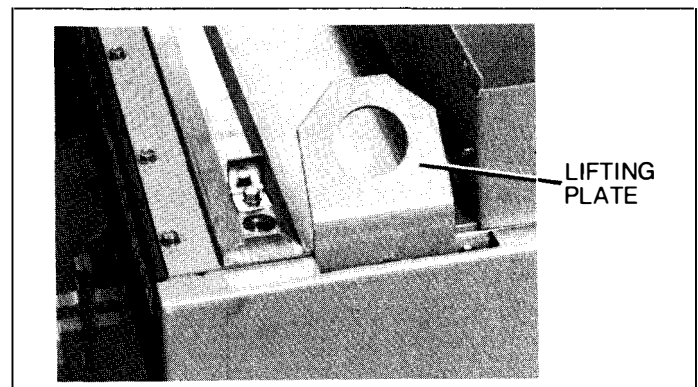
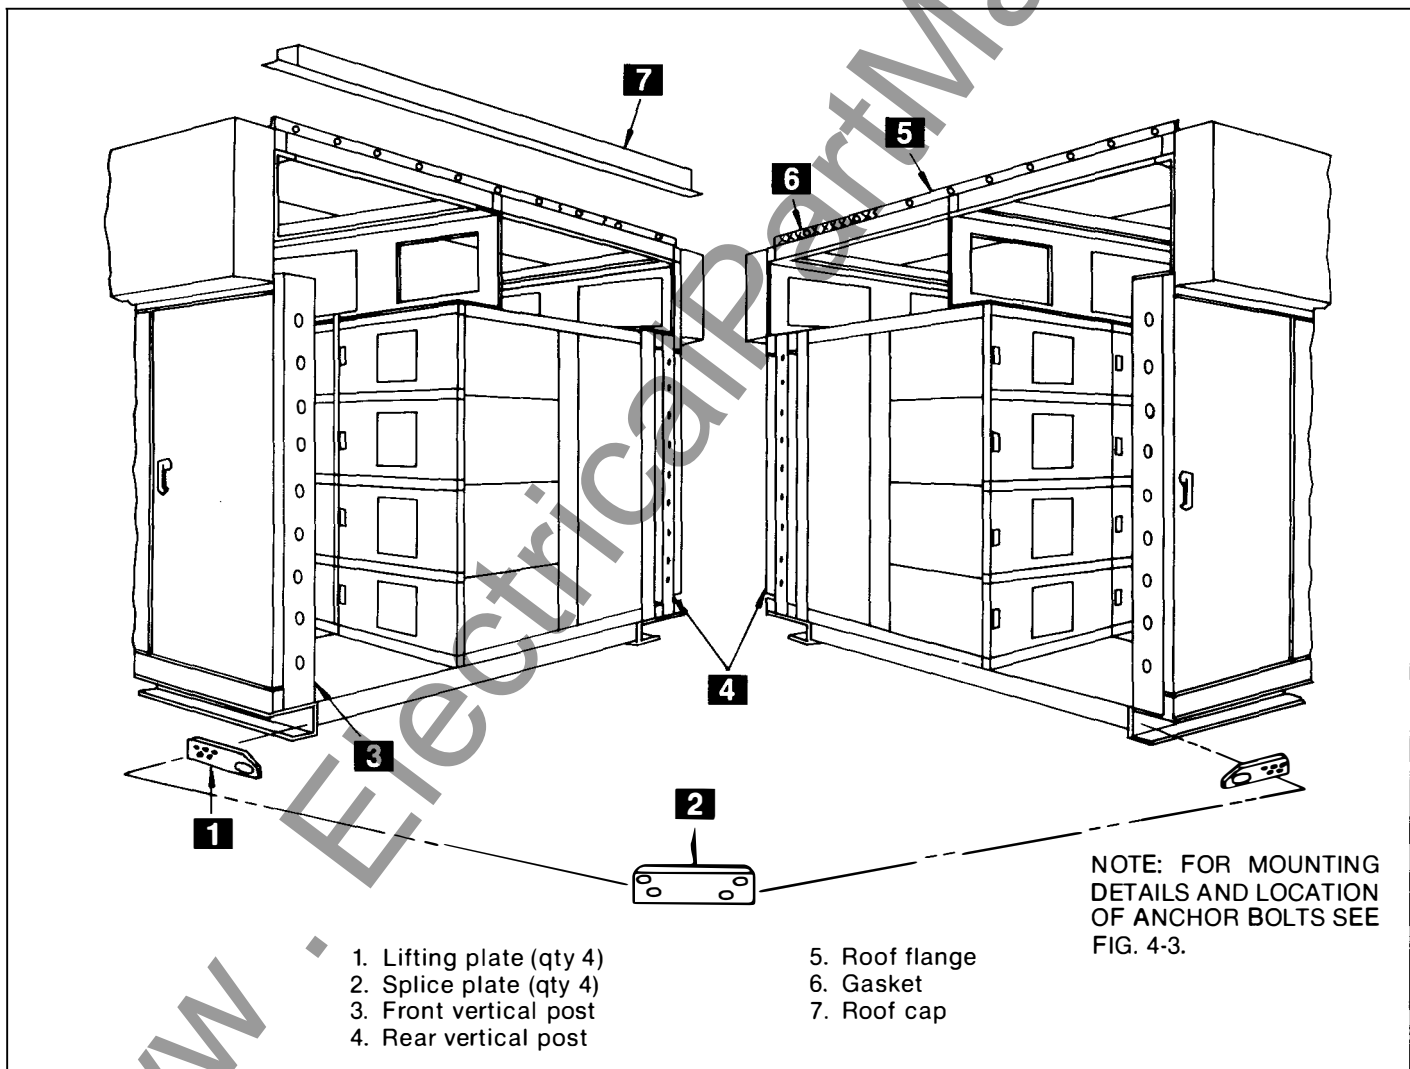
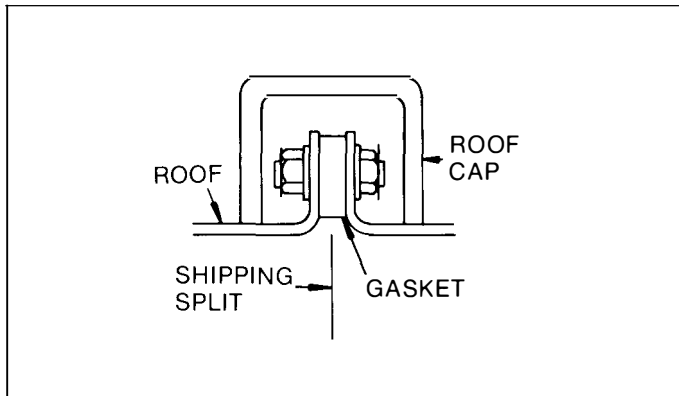

Fig. 4-5. Lifting plate location
Fig. 4-19. Outdoor enclosure shipping split assembly
Fig. 4-20. Cross-section view of assembled roof joint
**NOTE:** If the equipment line-up was split into shipping sections, the lifting plates on corners of adjacent sections shown in Fig. 4-5 must be removed. Failure to remove these plates will interfere with mating adjacent sections and prevent installation of bus splice plates, structure tie plates, etc.
2. HOLD GASKET IN PLACE—After removal of the lifting plates (see Fig. 4-5), it is necessary to cement a gasket (6), Fig. 4-19, to the mounting surface of the roof flange (5). The gasket material and cement (3M No. EC870) are supplied with the equipment. Apply a coat of cement to one side of each gasket and position it on one side of the joint.
4. FASTEN SECTIONS TOGETHER—Referring to Fig. 4-19, the mating sections of the outdoor enclosure should be immediately bolted together including the front (3) and rear (4) vertical posts and the roof flange (5). Each vertical post will require ten  $\frac{3}{8}$ -16 NC x 1-inch bolt assemblies; the roof flange will require either eleven or twelve  $\frac{3}{8}$ -16 NC x  $\frac{1}{2}$ -inch bolt assemblies. The bolts should be tightened with a torque of 25 ft-lbs. Figure 4-20 is a cross-sectional view of the assembled roof joint.
5. TIE HOUSING BASES TOGETHER—Referring to Fig. 4-19, tie the bases of the outdoor housing together using the splice plate (2) supplied with the equipment and the bolts which previously secured the lifting plates (1) removed after emplacement of the equipment. The nuts are welded to the rear surface of the base. The bolts should be tightened with a torque of 45 ft-lbs.
6. INSTALL THE ROOFCAP—The roofcap (7), Fig. 4-19, should be installed over the sealed and fastened roof flange assembly (5). The roof cap is secured in place with two ¼-20 NC x ½-inch thread forming bolts, each at the front and the rear ends of the roof cap. These bolts should be tightened with a torque of nine ft-lbs.